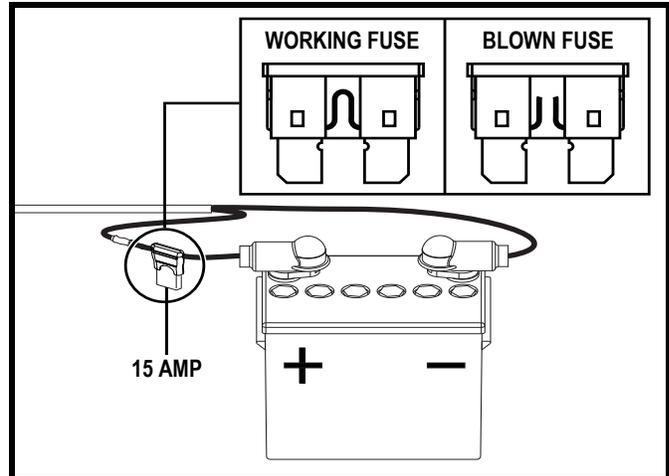

Figure 9. Hardwire Fuse
- If the circuit breaker reset button is not tripped, check the hardwire fuse to see if it is blown. Replace if necessary. See figure 9.
- Check the fuse located on the red power wire near the battery. If blown, replace with a new 15-amp fuse. See figure 9.